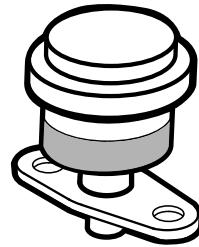

Figure 47
Service the primary air cleaner filter only when the service indicator (Figure 47) requires it. Changing the air filter before it is necessary only increases the chance of dirt entering the engine when the filter is removed.
1. Check the filter blockage indicator. If the indicator is red, the air filter needs to be replaced (Figure 47).